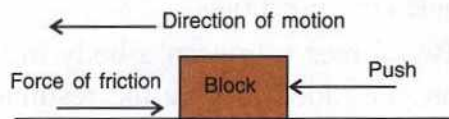

Fig. 3.13 Force of friction as a contact force
- (b) The force of friction or frictional force exerted by a surface on a body in contact with it, in a direction opposite to the direction in which the body is moved on the surface (Fig. 3.13).